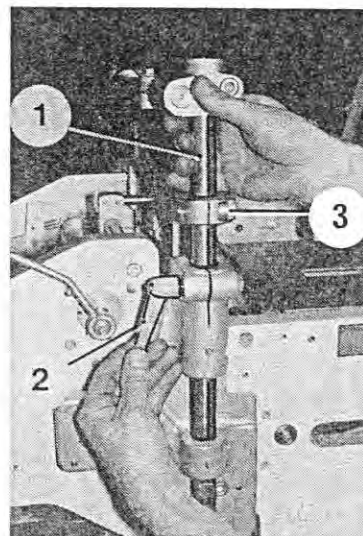

Fig. 231
2. To adjust the ink printer in longitudinal direction with regard to the wrapper, grasp the rods of the counterplate (Figure 231/1) and loosen the clamping facility, using the lever (Figure 231/2).
4. The stop ring (Figure 231/3) can be used as a stop for the longest wrapper. To do so, loosen the clamping screw of the stop ring. Lower the stop ring down to the clamping facility and tighten the clamping screw.